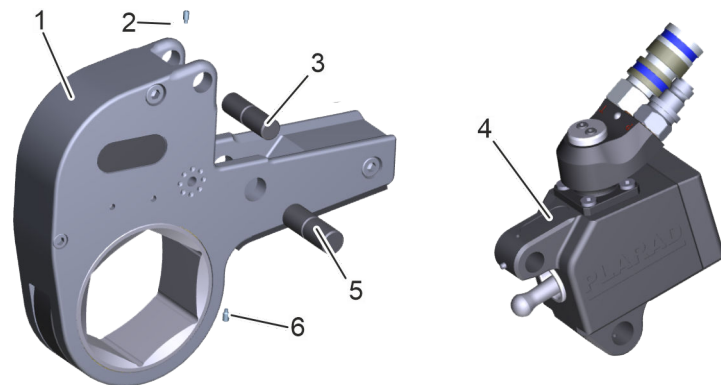

Fig. 24: Connecting the ratchet head and drive unit
2. ➤ Take off the drive unit. Unfasten the stud bolts (Fig. 24/2 and 6) to do so. Press out the fastening pin (Fig. 24/5) with a suitable tool (Fig. 23).
3. ➤ Swing the drive unit (Fig. 24/4) upwards on the fastening pin (Fig. 24/3).
4. ➤ Press out the fastening pin (Fig. 24/3) with a suitable tool (Fig. 23).
5. ➤ Take off the drive unit (Fig. 24/4).